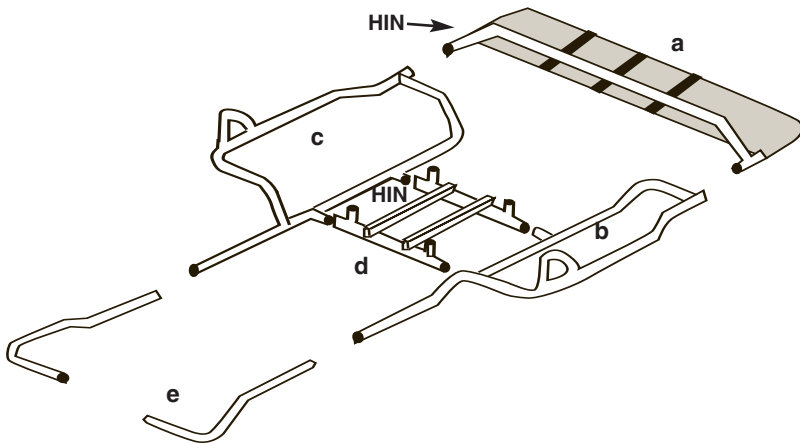

Fig. 1
1. Assemble Cargo Deck by sliding Mesh Cargo Deck over Frame Member (see figure 1) and secure using attached Hook and Loop and Ladder Lock / Strap fasteners.
3. Assemble Seat Support Frame Member to Left and Right Frame Members using (4) of the Short Snap Pins (see figures 1 and 2.)
4. Assemble Cargo Deck to Left and Right Frame Members using (2) Short Snap Pins (see figures 1 and 2).
5. Assemble Foot Bars to Left and Right Frame Members using (2) Short Snap Pins (see figures 1 and 2).
AND ON RIGHT MAIN FRAME MEMBER (SEE FIGURE 1)**